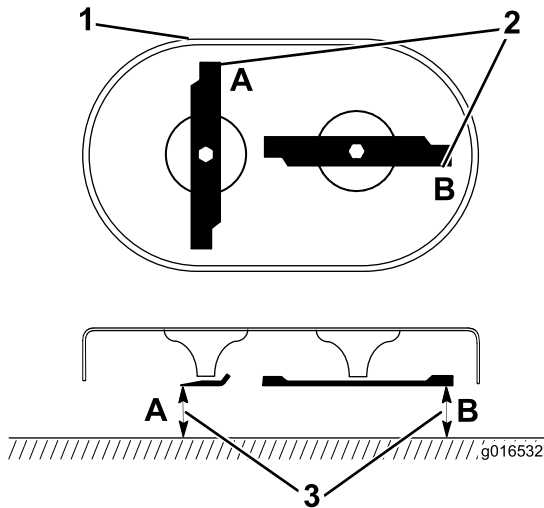

Figure 30
1. Rotate the blades until they are positioned as shown in Figure 30.
2. Measure from a level surface to the cutting edges at locations **A** and **B**, (Figure 30), and record both dimensions.